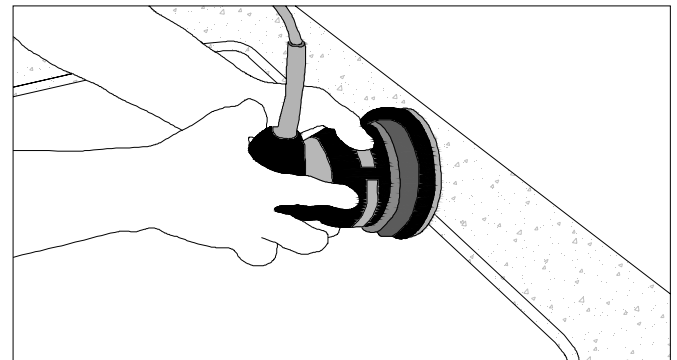

Figure 34C
- Sand the edge of the cutout with a random orbital sander. (FIG. 34C)